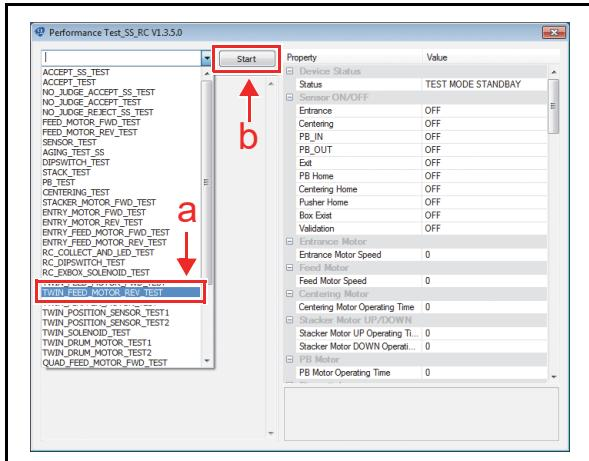

**Figure 6-38** Feed Motor Speed Forward Rotation Test (RT Transport) 2
5. The measured speed will appear in the “RC-Feed Motor (RC-Twin)” area (Figure 6-38 a) on the Screen.
7. Click the “Stop”  Screen Button (Figure 6-38 b) to end the test.